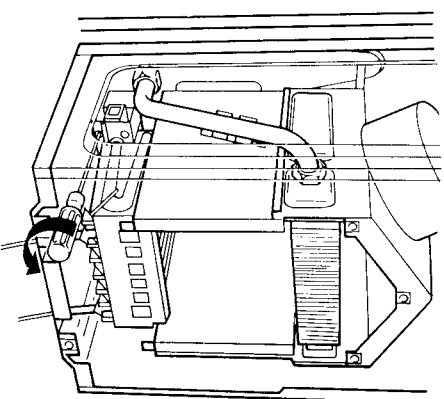

Fig. 21
8.6.4 Remove four burner retaining screws (fig 21) ease burner forward and rest on chamber base.